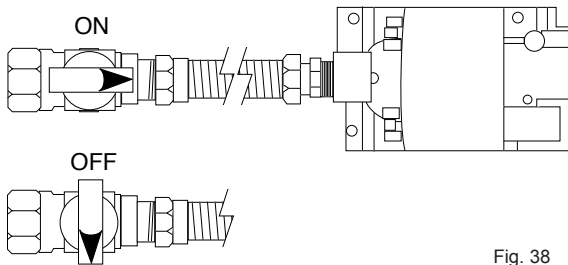

Fig. 38
6. Turn gas line valve to "ON". (Fig. 38)
7. Wait five (5) minutes to clear out any gas, then smell for gas, including near the floor. If you smell gas, **STOP!** Follow "B" in the safety information above. If you do not smell gas, go to the next step.